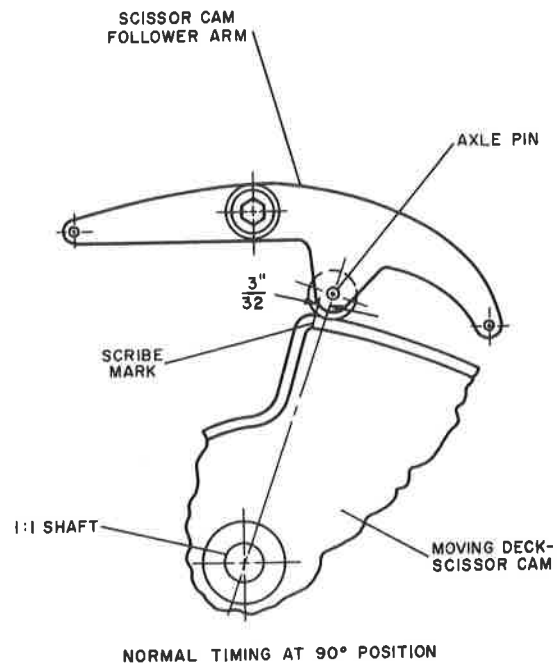

Figure 119. Out-of-Time Moving Deck-Scissor Cam
2. Check the position of the scribe line on the outer edge of the moving deck-scissor cam, with relation to the center of the axle pin of the scissor cam follower roller. (See Figure 119). The scribe line should be approximately 3/32" counterclockwise from the center of the axle pin.